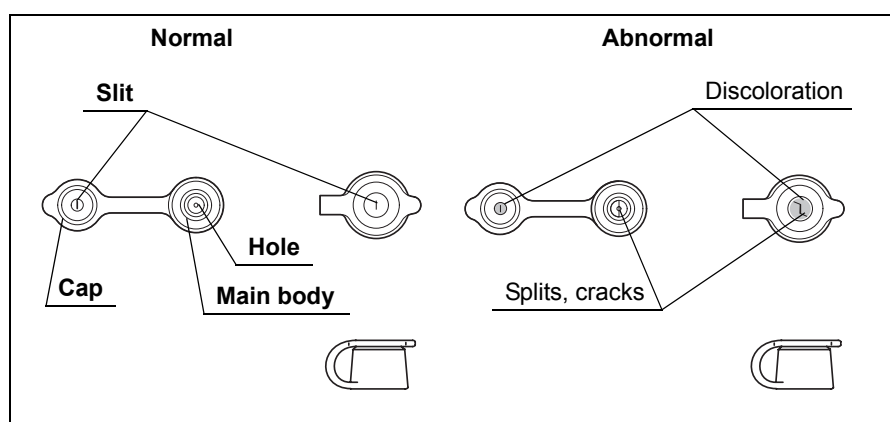

Figure 3.10
1. Confirm that the slit and hole on the biopsy valve have no splits, cracks, deformation, discoloration or other damage (see Figure 3.10).